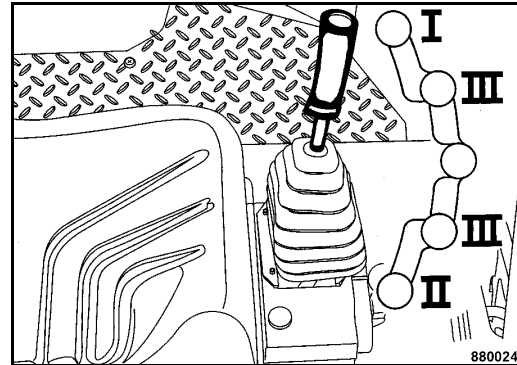

Fig. 63
- Disengage the travel lever (Fig. 63) out of braking position and move it slowly to the desired travel direction.